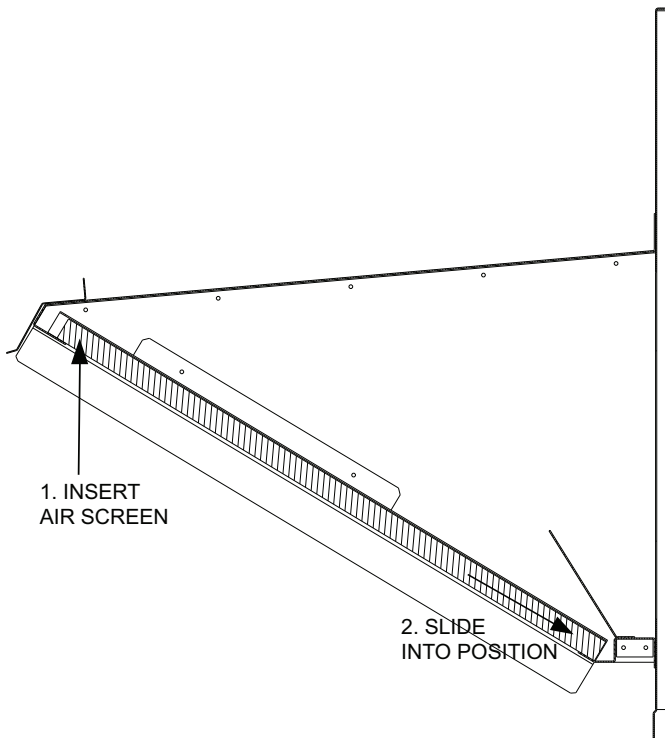
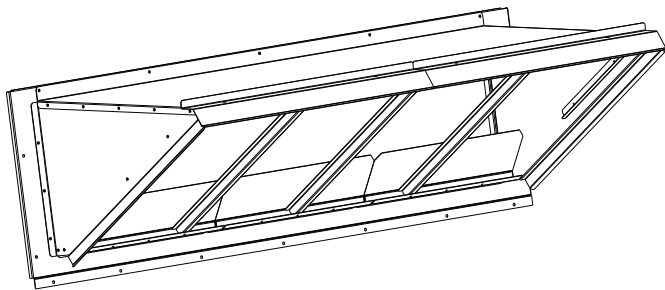

Fig. 23 — Outdoor Air Screen Installation
Fig. 24 — Completed Hood Assembly
12. Install outdoor air screens by sliding them into each of the four spaces created by the hood, filter support and central retainers. To do so, first insert the air screens into pocket created at the end of hood (item #3), then fully put the air screen into place, and then slide them back into pocket created in the filter support (item #1). Repeat this for each air screen (see Fig. 23). See Fig. 24 for completed hood assembly.